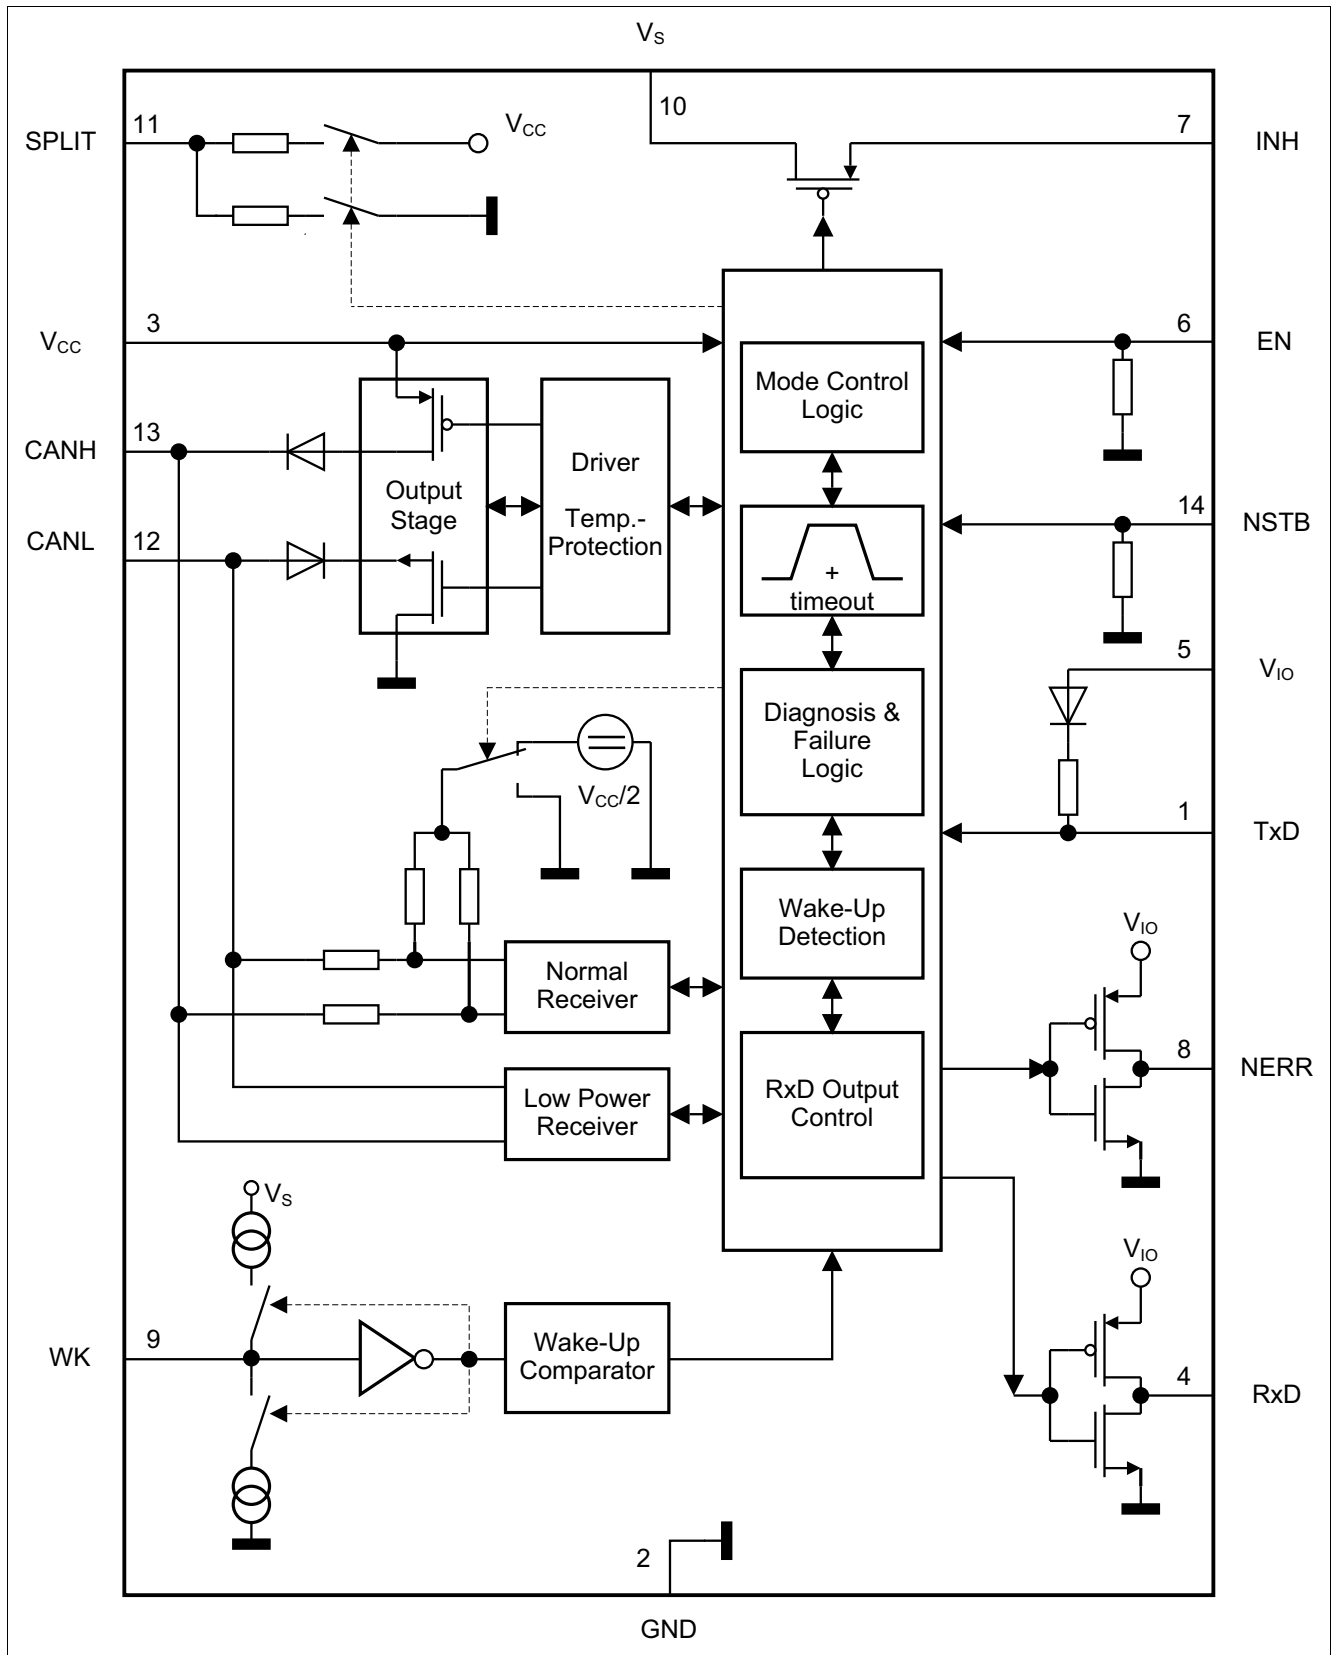
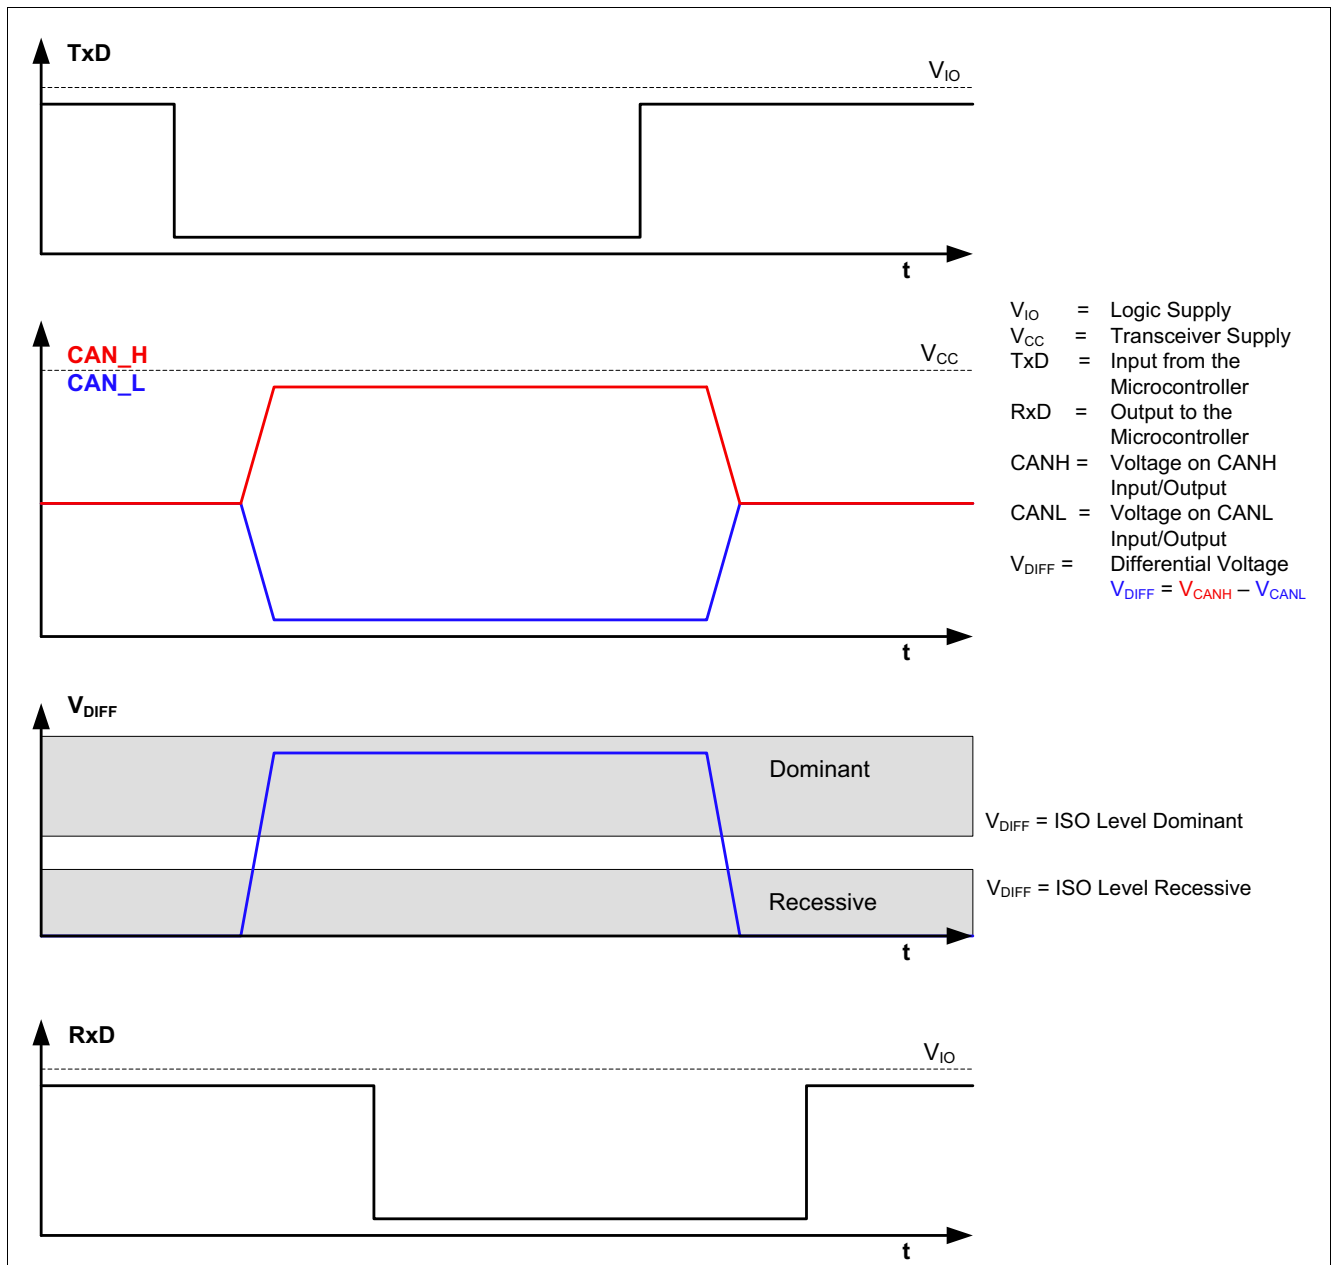

Figure 1 Block Diagram
Figure 3 High Speed CAN Bus Signals and Logic Signals
The TLE6251-2G is a High Speed CAN transceiver, operating as an interface between the CAN controller and the physical bus medium. A High Speed CAN network (abbreviated HS CAN) is a two wire differential network which allows data transmission rates up to 1 MBaud. Characteristic for a HS CAN network are the two CAN bus states dominant and recessive (see Figure 3).
The input TxD and the output RxD are connected to the microcontroller of the ECU. As shown in Figure 1, the HS CAN transceiver TLE6251-2G has a receive unit and a output stage, allowing the transceiver to send data to the bus medium and monitor the data from the bus medium at the same time. The HS CAN TLE6251-2G converts the serial data stream available on the transmit data input TxD into a differential output signal on CAN bus. The differential output signal is provided by the pins CANH and CANL. The receiver stage of the TLE6251-2G monitors the data on the CAN bus and converts them to a serial data stream on the RxD pin. A “low” signal on the TxD pin creates a dominant signal on the CAN bus, followed by a “low” signal on the RxD pin (see Figure 3). The feature, broadcasting data to the CAN bus and listening to the data traffic on the CAN bus simultaneously is essential to support the bit to bit arbitration on CAN networks.
- Through the internal resistors  $R_1$  (see Figure 1), the pins CANH and CANL are connected to GND.